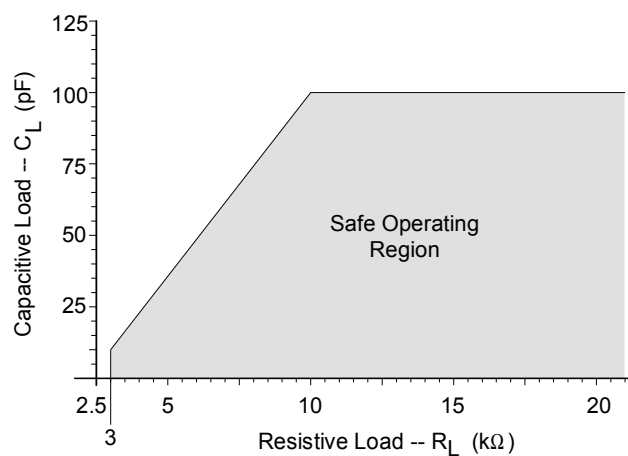

Figure 2. Maximum DAC Loading
6. Guaranteed by design. See Figure 2. R_L and C_L reflect the recommended minimum resistance and maximum capacitance required for the internal op-amp's stability. C_L affects the dominant pole of the internal output amp; increasing C_L beyond 100 pF can cause the internal op-amp to become unstable.